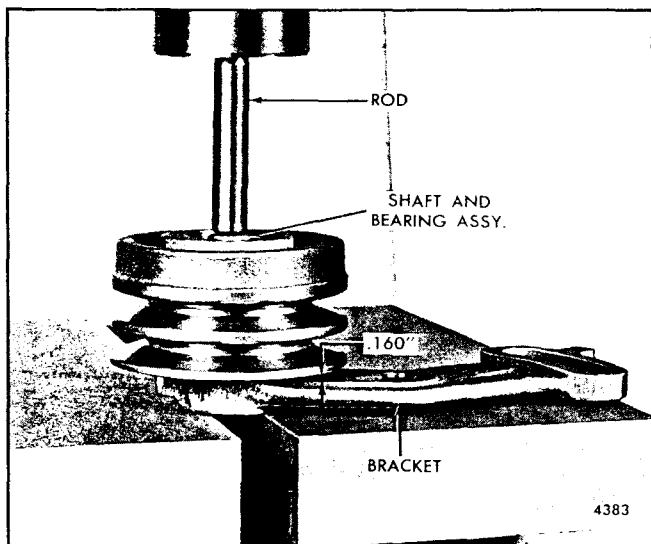

Fig. 4 - Installing Shaft and Bearing Assembly and Pulley in Bracket
2. With a short rod, apply pressure on the shaft only (Fig. 4) and press the shaft and bearing assembly with the pulley into the idler pulley bracket. The distance between the outer edge of the pulley and the bracket must be $.160''$.